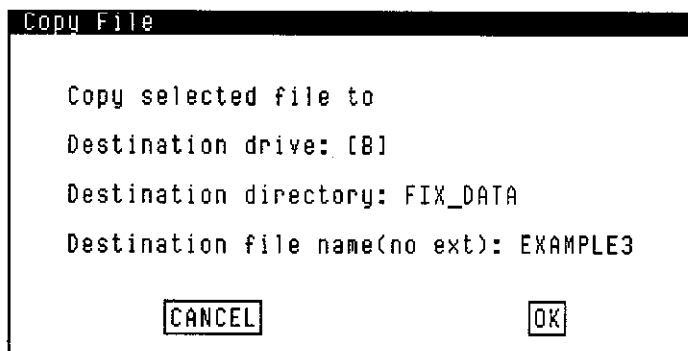

Figure 8-3. Copy File Window
- 5a. If one file was highlighted, the Copy File window, Figure 8-3, is displayed. Input the drive, directory and file name where the file is to be copied. Then click on [OK] to copy the selected file and remove the Copy File window from the display.